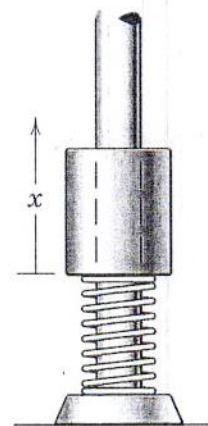

Fig. Q8
8. The 1.8 kg collar is released from rest against the light elastic spring, which has a stiffness of 1750 N/m and has been compressed a distance of 150 mm (Fig. Q8). Determine the acceleration a of the collar as a function of the vertical displacement x of the collar measured in meters from the point of release. Find the velocity v of the collar when $x = 0.15$ m. Friction is negligible.